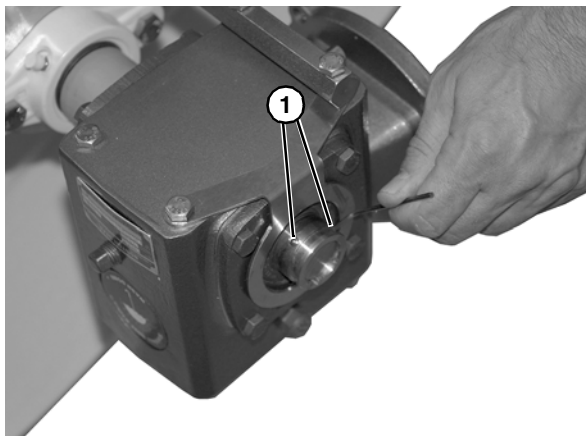

Figure 29
8. Tighten set screws (**Figure 29, item 1**) on outer gearmotor bearing.